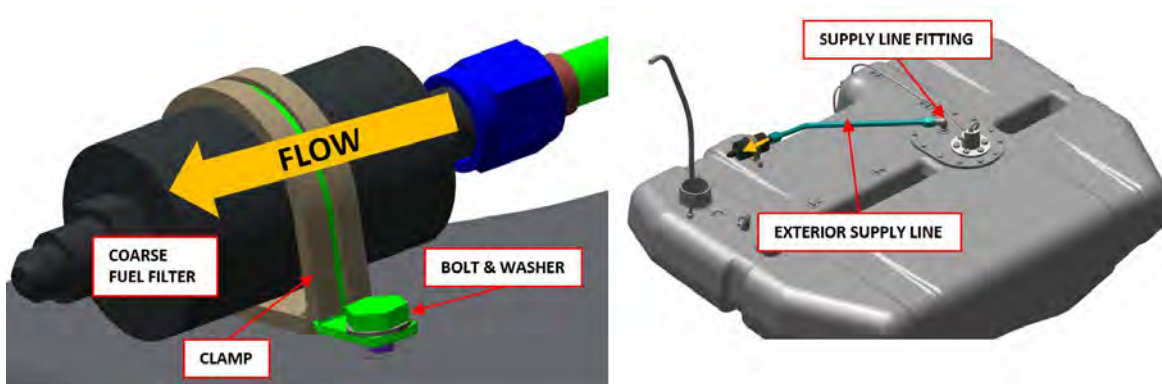

FIGURE 13-35
- a. Remove any caps or plugs from the Supply Line Fitting. (See Figure 13-35.)